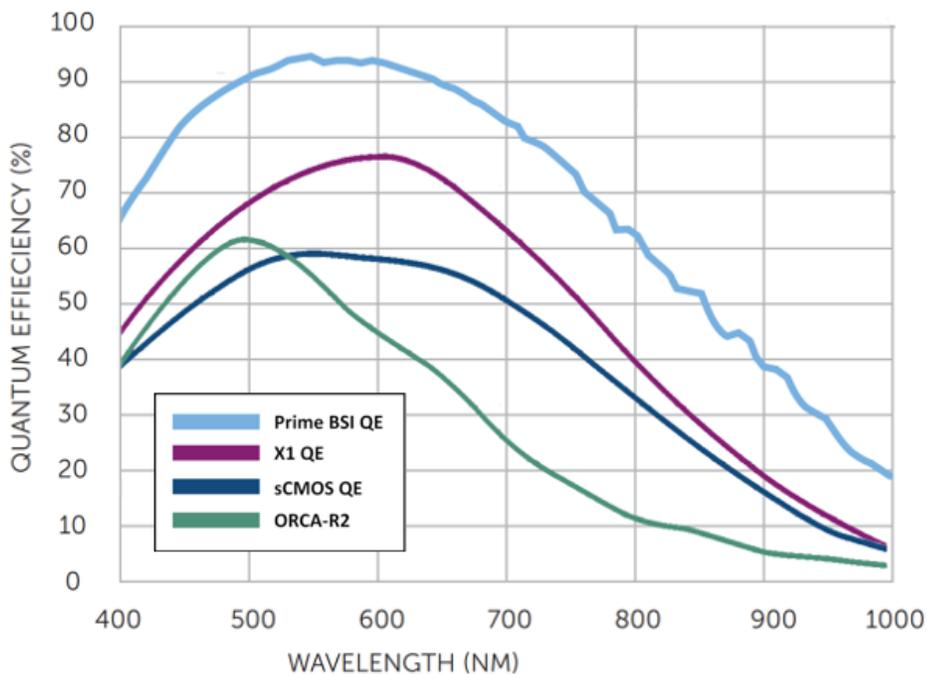

Figure 38 Camera quantum efficiency vs. wavelength
Camera	Photometrics Prime BSI: High-resolution, thermo-electrically cooled to -20°C ; up to 16-bit dynamic range (15-bit range for HCS Studio™ Cell Analysis Software, 16-bit for acquire only); FOV 2048×2048 pixel array; 6.5×6.5 micron pixel size; >95% peak Quantum Efficiency (QE); USB 3.0 (no additional CameraLink or Firewire Cards needed) See Figure 38 for the camera quantum efficiency vs. wavelength graph.